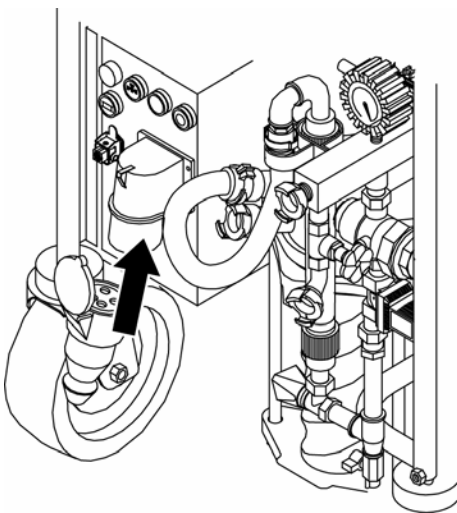

Fig. 19: Connecting the power
4. Interrupt the control current circuit by removing the dummy plug on the control panel and plug the mains connection (Fig. 19/arrow).